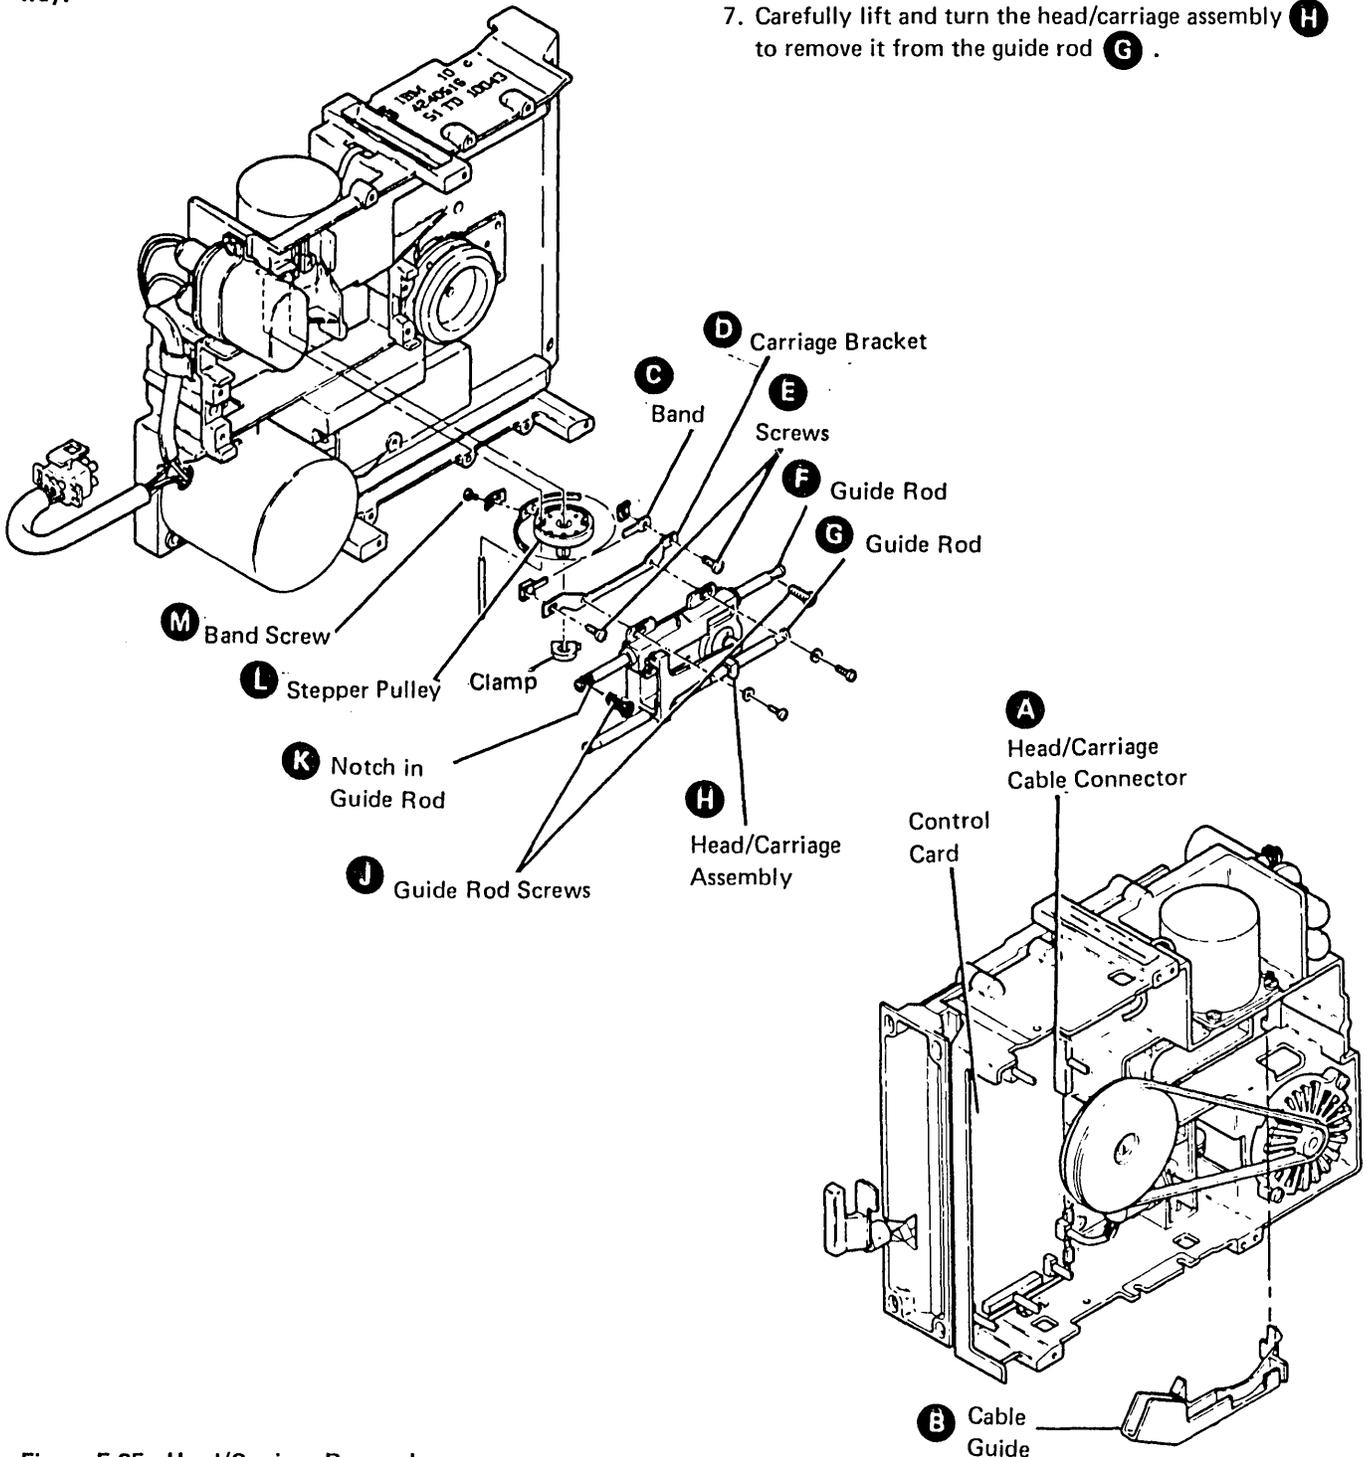

Figure F-25. Head/Carriage Removal
F.3.2.3 Head/Carriage Removal (Figure F-25)